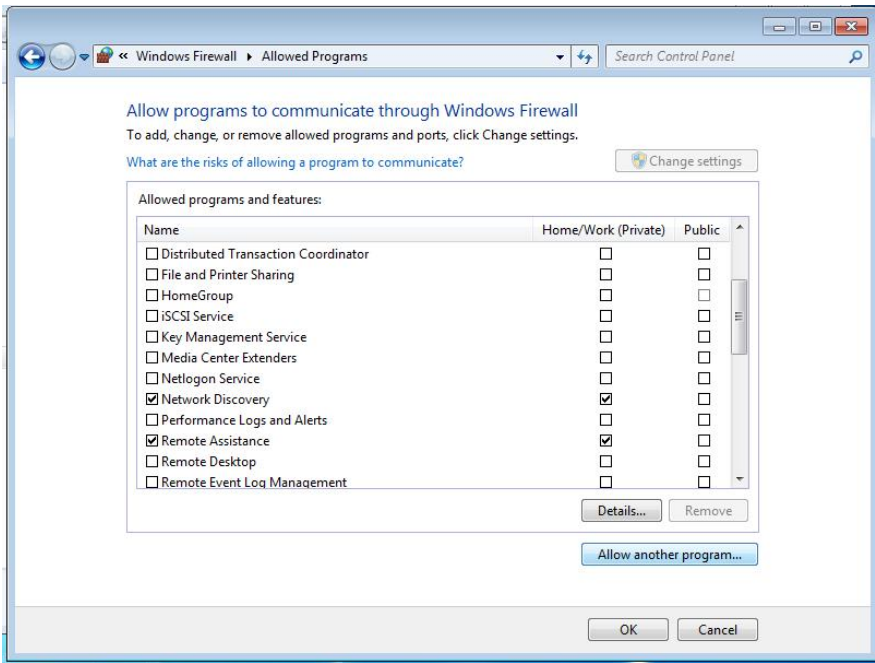

Fig.1.18 Allowed Programs
(5) Click “Changes settings” button and “Allow another program” button (see Fig.1.18).